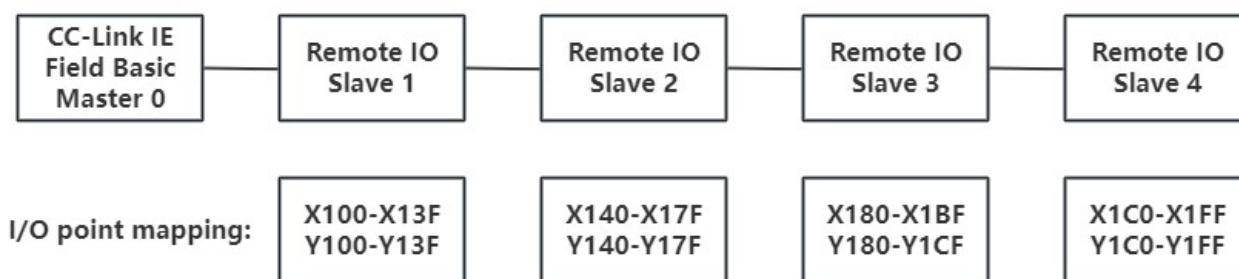

Figure 5-3-10 Slave IO Point Mapping
5. CC-Link IE Field Basic Output Point Mapping Method: Each slave occupies 64 points, i.e., 64 DI and 64 DO. Here, the input and output points correspond to the starting addresses X100 and Y100, respectively. The slave I/O point mapping is shown in Figure 5-3-10.